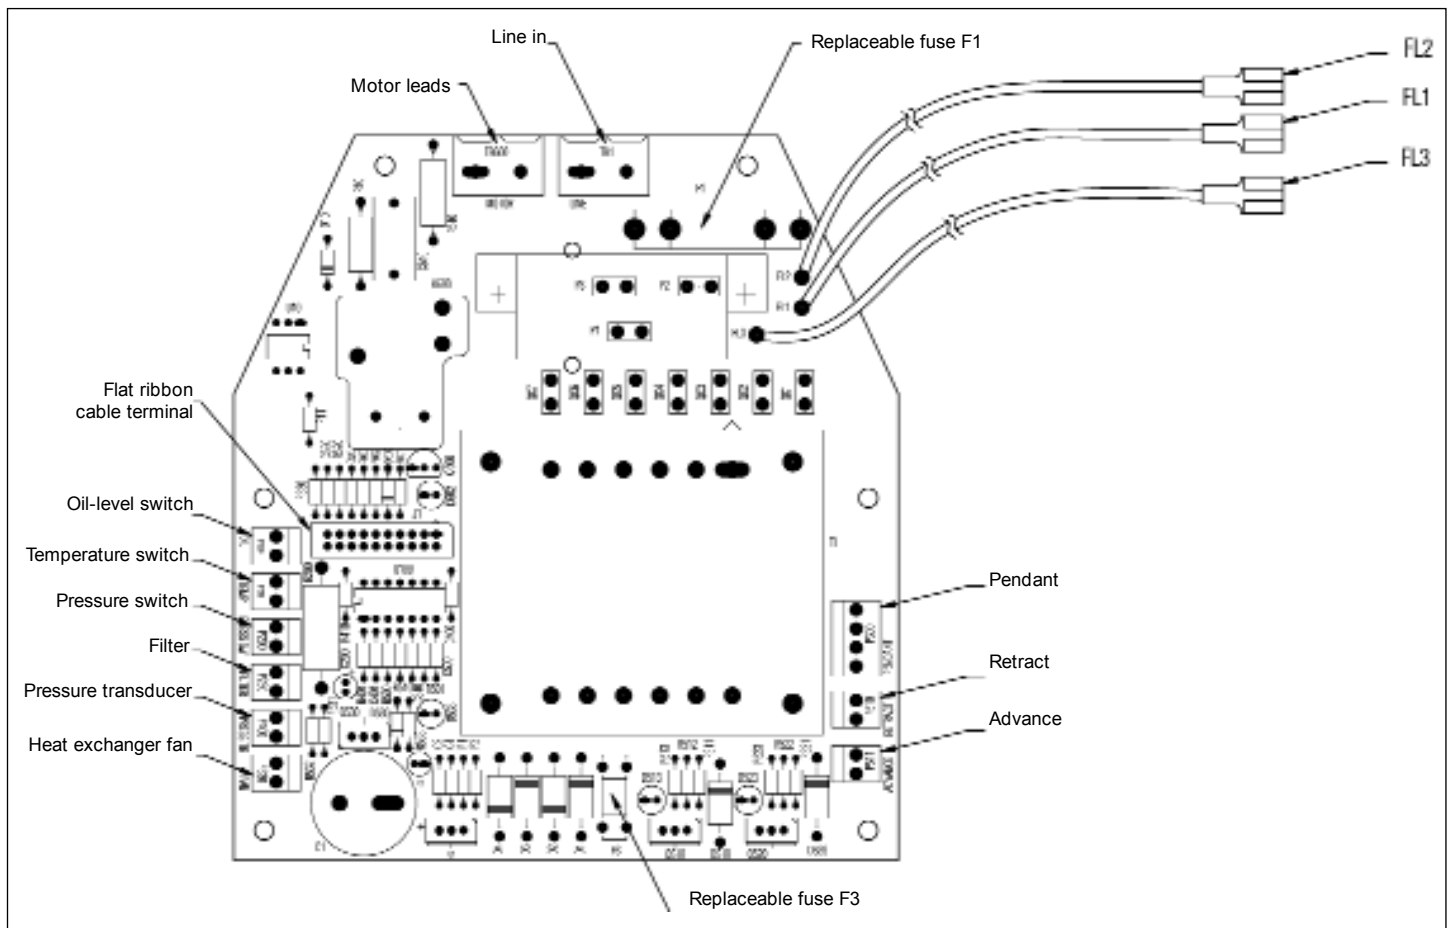

Figure 12, Electric Power Board Configuration
The pressure transducer, heat exchanger, pressure switch, pendant / foot switch, valve solenoids (A) and (B) are supplied with connectors that plug into the proper plug-ins found on the electrical power board (Figure 12).
Disconnect unit from power supply before opening shroud. Remove LCD shroud half and one small hole plug from front bracket. Route wire through front bracket, connect to power board (see figure 12), and secure strain relief. Install shroud half.
Disconnect unit from electrical power supply before opening shroud. Remove LCD shroud half and one small hole plug from front bracket. Route pressure switch wire through front bracket, connect to power board (see figure 12), and secure strain relief. Install shroud half.
| After boot-up LCD shows "P switch open"                   | Pressure switch circuit is open and press transducer is installed                                                                                         | Check power board pressure switch jumper for being loose or missing (see Fig. 12).Remove pressure switch or pressure transducer from pump.                                        |
| LCD display shows "FILTER"                                | Loose jumper on power board                                                                                                                               | Check power board for loose or missing jumper at filter (see fig. 12).                                                                                                                |